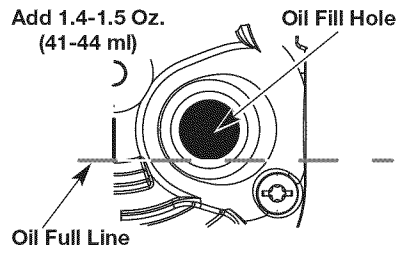

Fig. 18
5. Look into the oil fill hole; use a flashlight if needed. The oil should be just touching the inner most thread (Fig. 18).
6. If the oil level is not touching the inner most thread on the oil fill hole, add a small amount of oil to the oil fill hole and recheck (Fig. 18). Repeat this procedure until the oil level reaches the innermost thread on the oil fill hole.